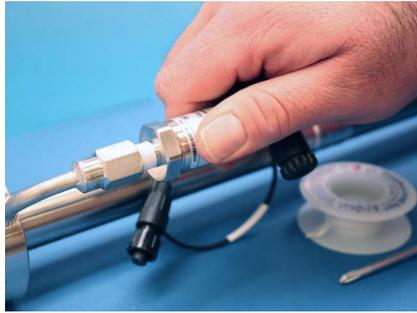

Figure B-9 Replacing pressure sensor
18. Hand tighten the pressure sensor turning it counterclockwise into the flange until no longer moving freely (refer to Figure B-9).